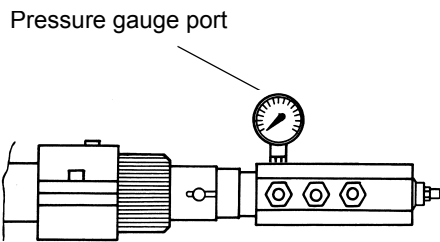

Fig. 19
- (RD) I High flame
- (BU) II Stand-by
- (OG) III Low flame
- (YE) IV -
- (BK) V -
- (GN) VI -
- 9 the nozzle supply pressure is already factory-set and must not be changed. Only if necessary, adjust the supply pressure as follows (see related paragraph); insert a pressure gauge into the port shown on Fig. 19 and act on on the pump adjusting screw **VR** (see Fig. 18) as to get the nozzle pressure at 25bar (see diagram on page 41).